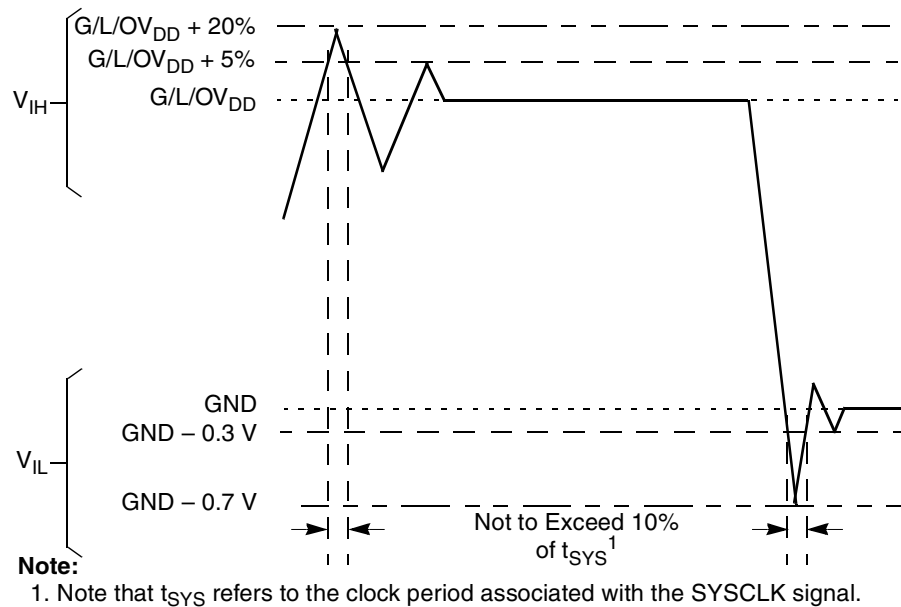

Figure 2. Overshoot/Undershoot Voltage for $G_{V_{DD}}/O_{V_{DD}}/L_{V_{DD}}$
- (M,L,O) V_{IN} and MV_{REF} may overshoot/undershoot to a voltage and for a maximum duration as shown in Figure 2.
Figure 2 shows the undershoot and overshoot voltages at the interfaces of the MPC8555E.